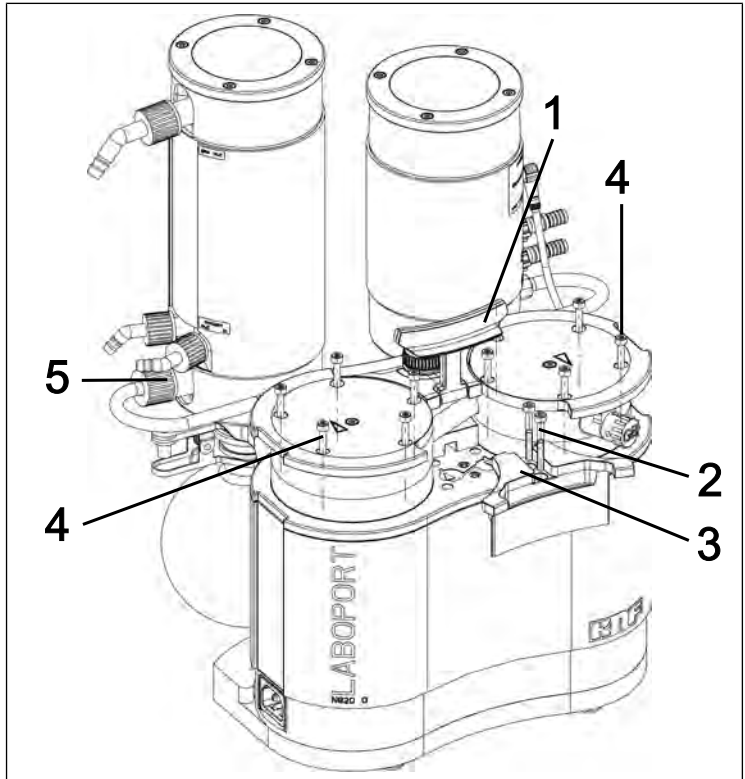
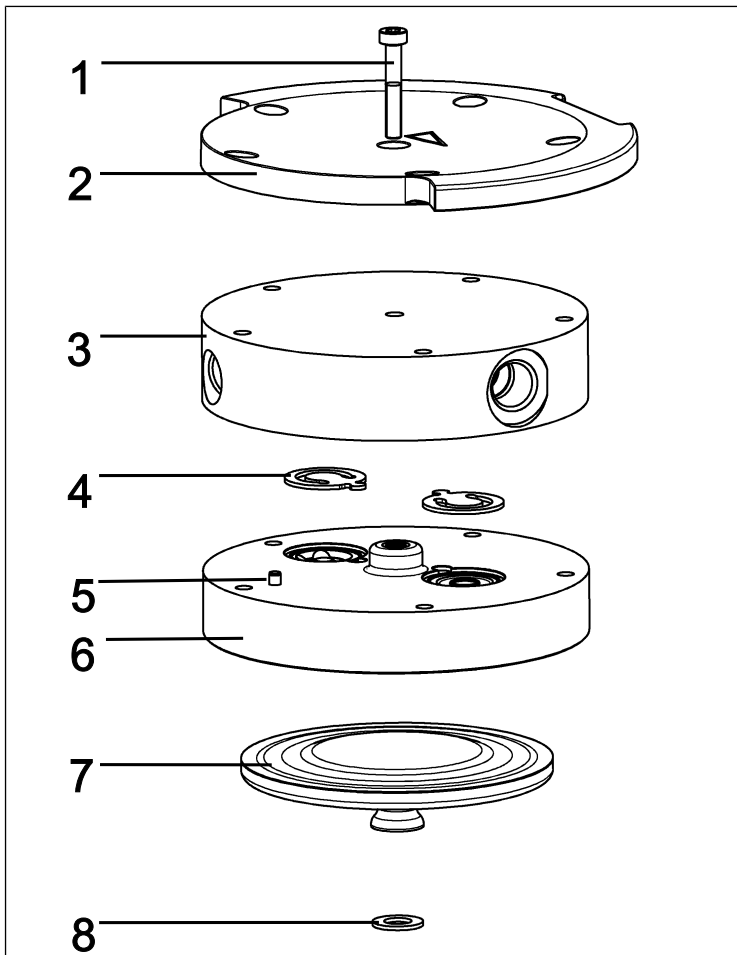

Fig.25: Remove handle cover
Fig.26: Pump head (pump N820 shown)
4. Remove the union nut of the hose connection (**5**/Fig. 25) from the vacuum system components.
5. Set the handle (**1**/Fig. 25) to a vertical position.
6. Loosen the two screws (**2**/Fig. 25) of the handle cover (**3**/Fig. 25).
7. Remove the handle cover (**3**/Fig. 25).
8. Loosen the 10 external head screws (**4**/Fig. 25) on both pump heads.
9. Remove the 10 external head screws (4/ Fig. 25) from both pump heads.
**i** The two internal head screws (1/ Fig. 26) remain tightened for the time being.
**i** The following item numbers refer to Fig. 26, unless specified otherwise.
1. Mark the pressure plate (2), head plate (3) and intermediate plate (6) with a continuous pencil stroke. This prevents the parts from being incorrectly mounted later on.
2. Remove the external screws (4/Fig. 25) of the pump heads.
9. Insert the 10 external screws (**4**/Fig. 25) in the pump head and tighten them in a crosswise pattern (tightening torque: SC820G: 4 Nm; SC840G: 5 Nm)
- i** If the external screws (**4**/Fig. 25) cannot be inserted into the pump head, loosen the internal head screw (**1**) and check the seating of the head plate (**3**) on the intermediate plate (**6**).
11. Hand-tighten the union nut of the hose connection (**5**/Fig. 25) on the high-performance condenser (**2**/Fig. 3).
1. Mount the handle cover (**3**/Fig. 25).
2. Tighten the screws (**2**/Fig. 25) of the handle cover (**3**/Fig. 25) (tightening torque: 2 Nm).